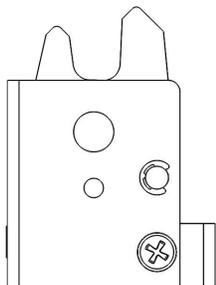

**Figure 5-2**
- C. Install the top strike with supplied mounting screws as shown in Figure 5-2.